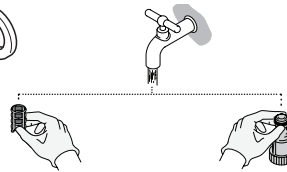

Fig. 26-2
4. Rinse the water filter (21a) with clear water (Fig. 26-2).